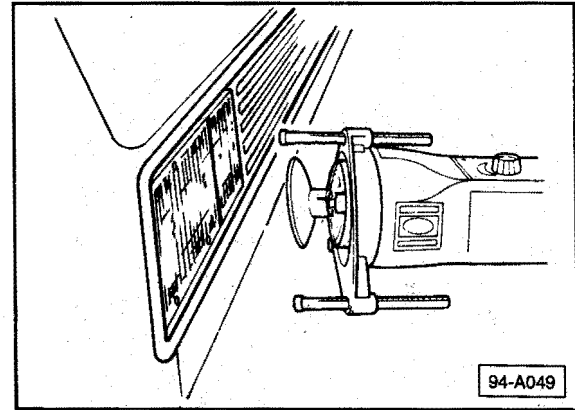

Fig. 2 Placing the adaptor assembly on the aiming pads
- mount assembly to headlight lens. See Fig. 2.